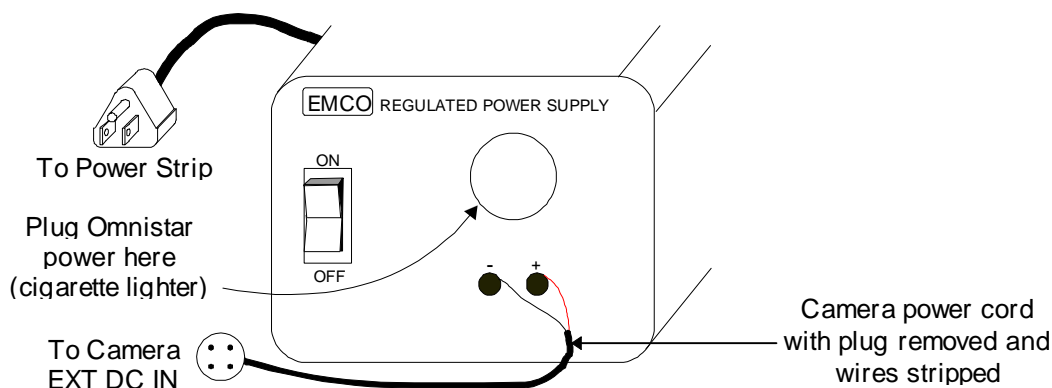

Figure 15
33. The plug on the loose end of the camera's power cord needs to be cut, then strip enough of the two wires to attach to the Emco power supply (see **Figure 15**).